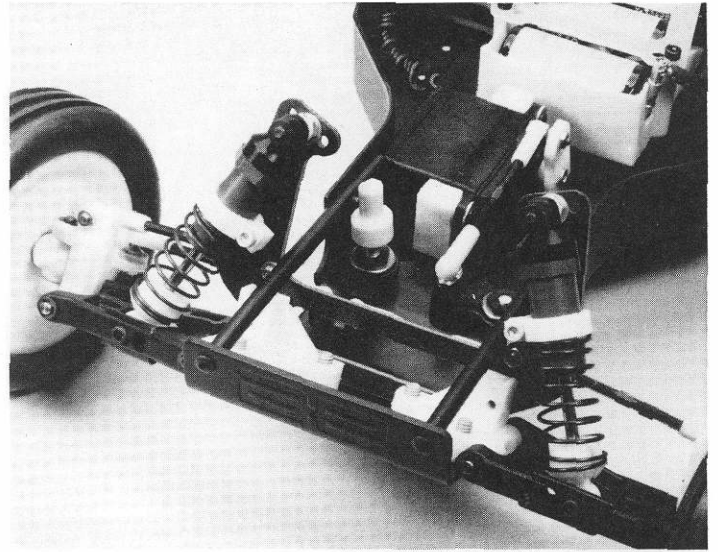

**Fig. 185**
□ **Fig. 185** Now measure the motor lead wires to cut them to the right length (make sure you leave some slack in the wires), then solder them onto the motor.